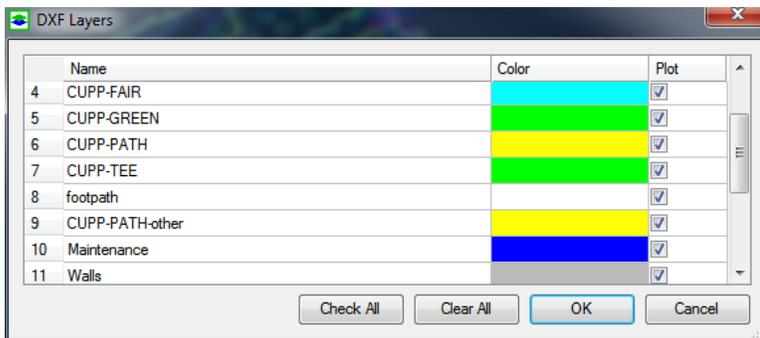

Figure 2.8. The DXF Layers dialog box
- *Layers*: Click the  button to open the DXF Layers dialog box as shown in Figure 2.8. Graphical objects of a DXF file are often grouped in separate layers. You can use this dialog box to switch on or off individual layers. The layer colors cannot be modified.